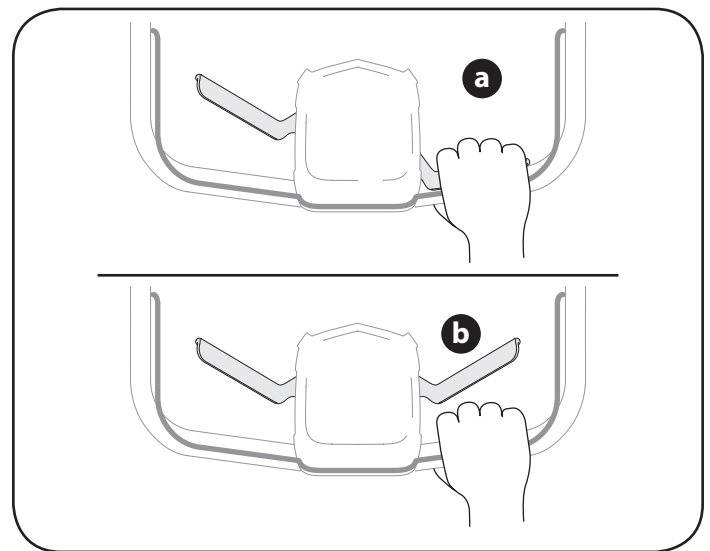

Figure 15
1. Using Mower as Rear Wheel Drive Only. See Figure 15: